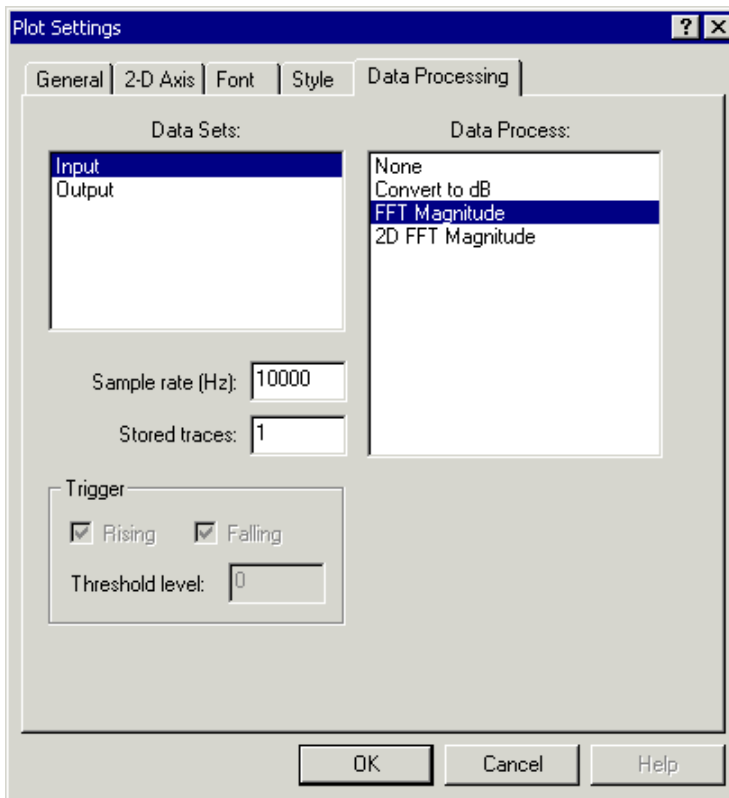

Figure 2-32. Data Processing Page
- a. Click the **Data Processing** tab to display the **Data Processing** page, shown in Figure 2-32.
6. Click the **Data Processing** tab to display the **Data Processing** page, shown in Figure 2-32 on page 2-43. Complete this page as follows.